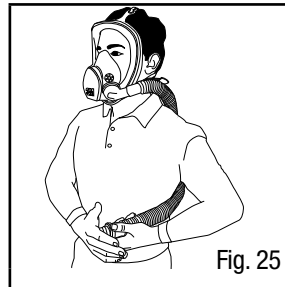

Fig. 25
- Completely plug the blower end of the breathing tube with the palm of your hand (Fig. 25).
1. Completely plug the blower end of the breathing tube with the palm of your hand (Fig. 25).